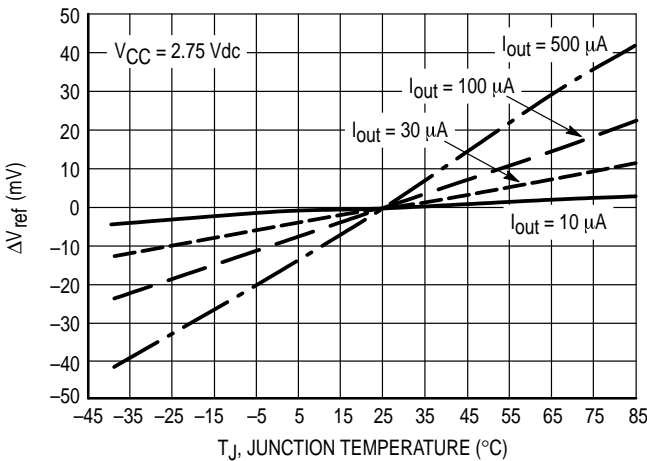

Figure 2.  $\Delta V_{ref}$  versus  $T_J$  @  $I_{out}$
- Step 3: Choose  $I_{out}$  keeping in mind that too large an  $I_{out}$  can impair MDC5000T1  $\Delta V_{ref}/\Delta T_J$  performance (Figure 2) but too large an R6 can cause  $I_{DGO}$  &  $I_{GSO}$  to bias on the FET.